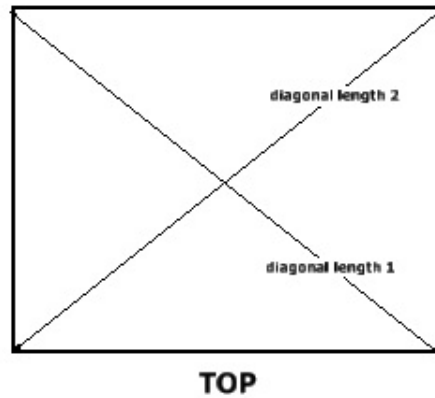

Figure 3
5.3.1 For top squareness, place the box on the flat surface and measure the diagonal lengths (as shown in Figure 3) to the nearest 1.0 mm.